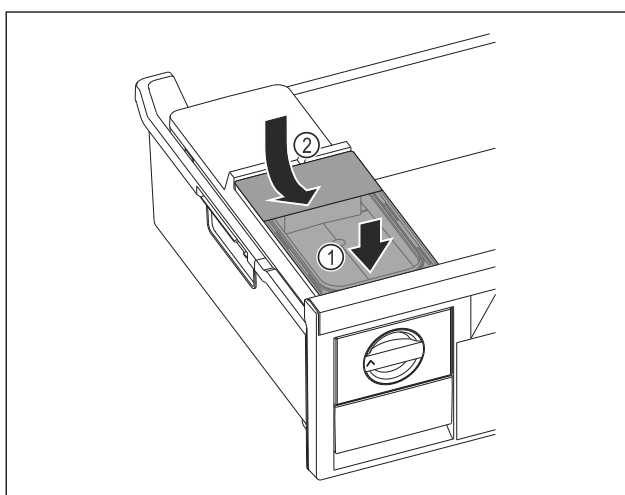

Fig. 124
- Position the water tank at the front. Fig. 124 (1)
- Lower the water tank at the rear. Fig. 124 (2)